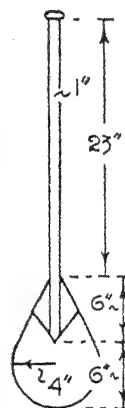

Fig. 4 The paddle
The paddle is made from a length of 1 in. or  $1\frac{1}{2}$  in. square oak or ash. A  $\frac{1}{2}$  in. slot is cut 6 ins. up the centre of one end for the plywood blade (see Fig. 4) which is glued and nailed in place. Side pieces of wood are affixed on both sides to the thickness of the shaft.
Fig. 4 shows a simple fork and (5a) indicates a very useful item—a candle holder for the pole. Sketch (6) shows a more elaborate and better form of the holder.